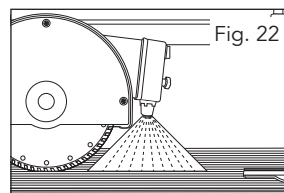

Fig. 22
3. The laser line is projected onto the material you wish to process, providing an exact guide for the cut (Fig. 22).